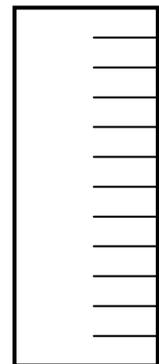

Figure 1
- d. Every 1", cut a 3" flanges across the TegraTite strip (Figure 1).
- d. Cut TripleSeal strip: 6" wide to wrap the pipe with 2" overlap. Every 1", cut 3" flanges across the TripleSeal strip (Figure 1).
- c. Cut TegraTite strip: 6" wide x pipe circumference plus 2" overlap. Every 1", cut 3" flanges across the TegraTite strip (Figure 1).